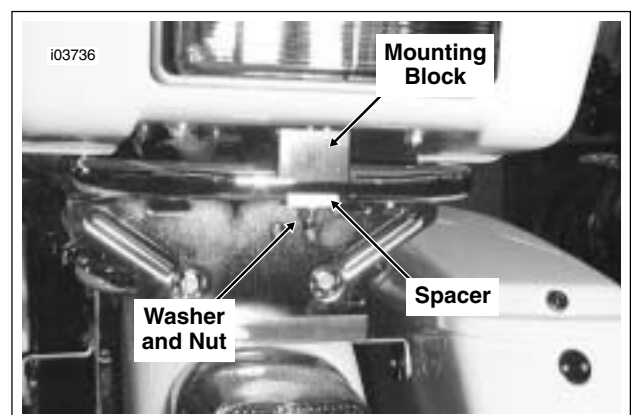

Figure 8-37. Install Tour-Pak Mounting Block
12. See Figure 8-37. Install washer to bolt and position bolt above hole at rear center Tour-Pak above rear block mounting position.